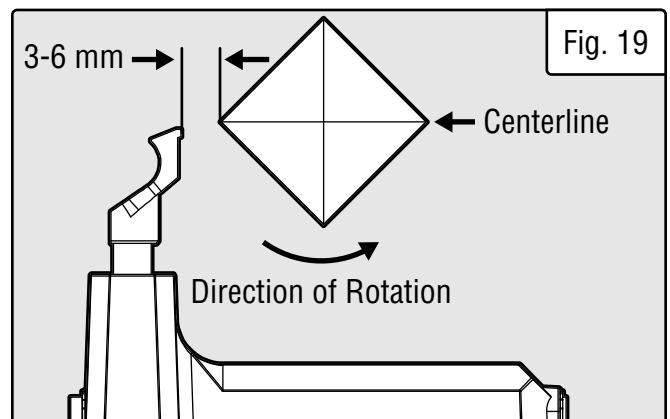

Fig. 19
7. Adjust the position of the tool rest to be parallel to the workpiece. The tool rest height should be just below the centerline and approximately 0.1 to 0.2 inches (3 to 6 mm) from the corners of the workpiece to be turned. Secure the tool rest by tightening the tool rest locking handle and locking lever (Fig. 19).